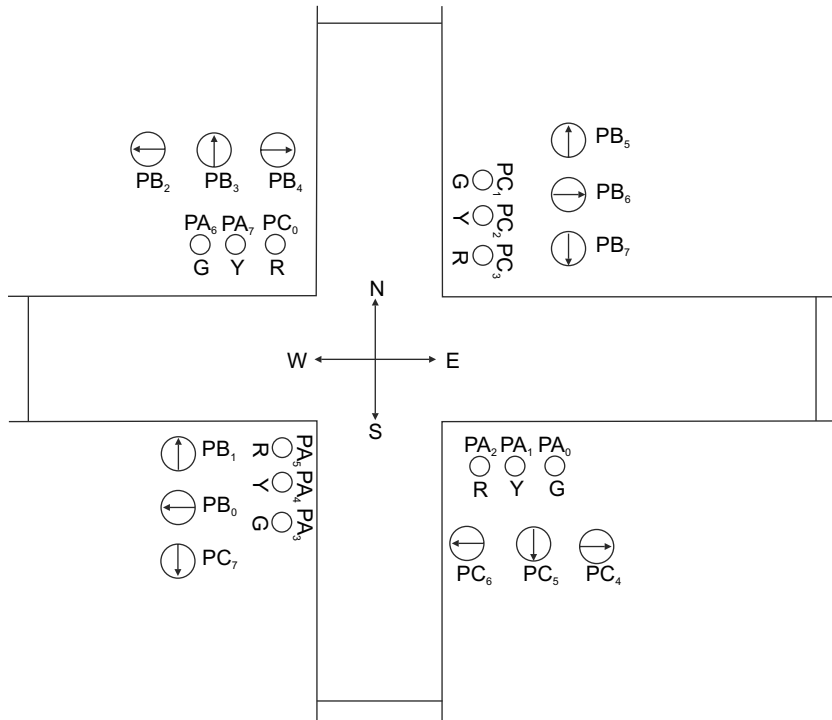

Fig. 10.62 Traffic light control
Nowadays microprocessors are used to implement the traffic control system. Figure 10.62 shows the simple model of microprocessor-based traffic control system. The various control signals such as red, green, orange, forward arrow, right arrow and left arrow are used in this scheme. The forward, right and left arrows are used to indicate forward, right and left movement respectively. The red (R) signal is used to stop the traffic in